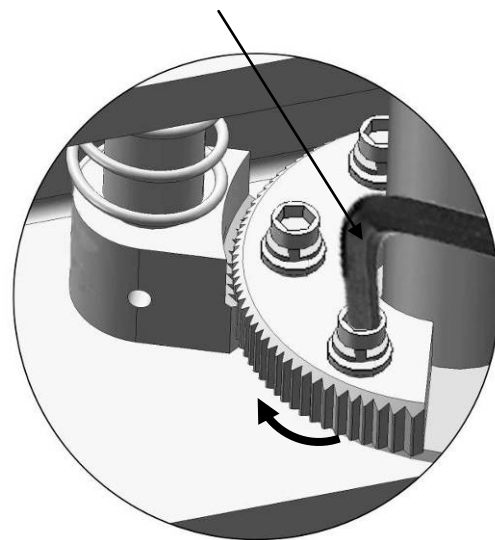

Fig. 28
4. Adjust the moon gear and arm lock to make it to be meshed, then tighten bolts of arm lock (See Fig. 28).